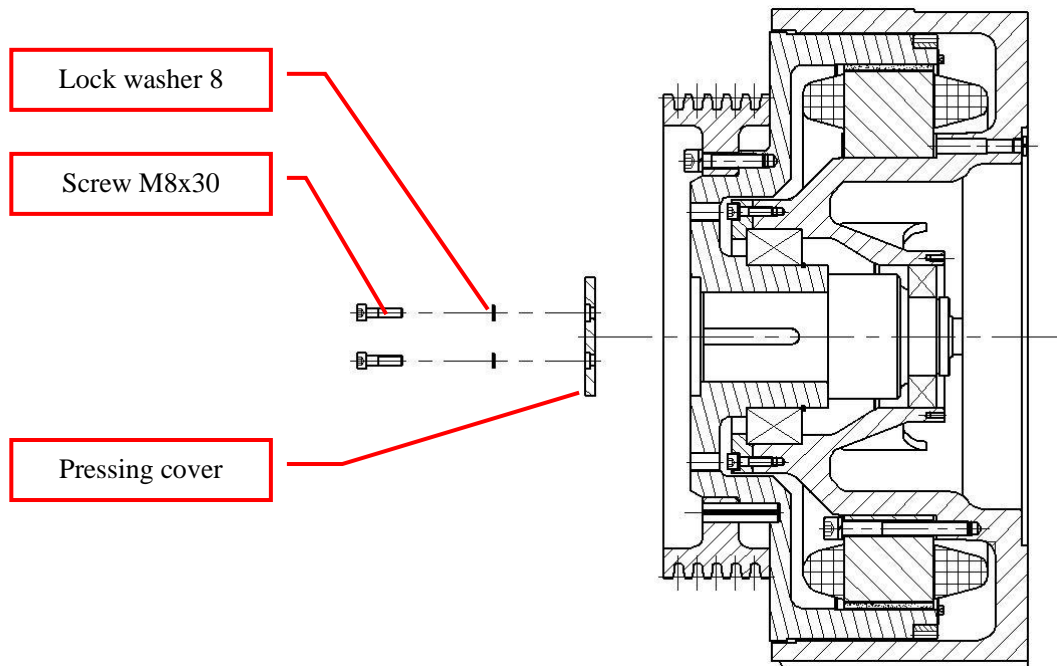

Figure 45: Remove pressing cover
- Screw out the screws M8x30 and lock washers 8 with hex wrench (6mm), then remove the pressing cover. See Figure 45.